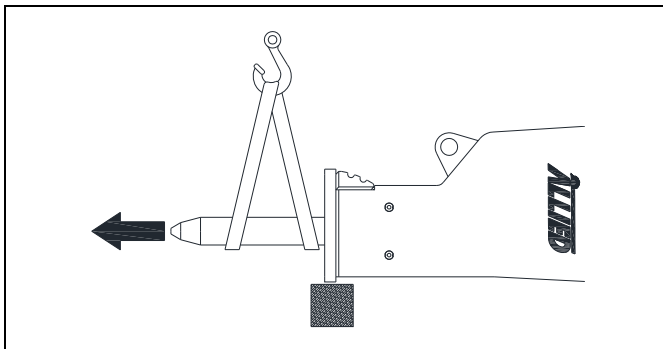

Fig. 10-5 Support Weight of Tool & Remove
5. Tool is released from Front Head. **Large Tools are Heavy!** Handle tools with a suitable hoist and sling. [Fig. 10-5].
3. **Large Tools are Heavy!** [Fig. 10-5]. Handle tools with a suitable hoist and sling. Insert tool in front head.